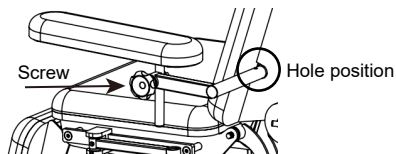

Figure 11
- Adjust side screw to adjust the height of the armrests (Figure 11).